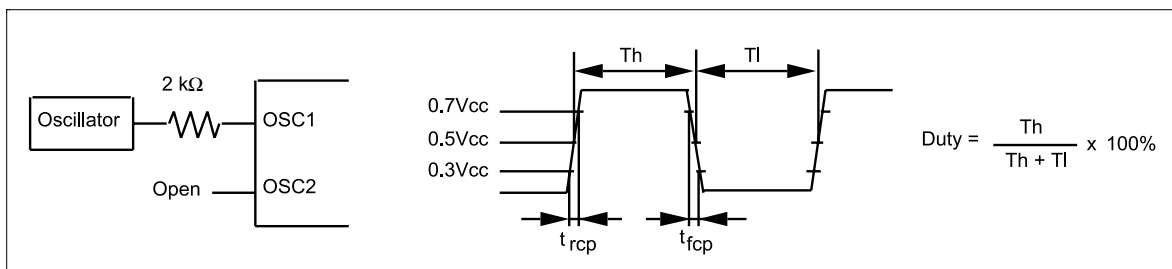

Figure 61 External Clock Supply
9. Applies to the external clock input (figure 61).